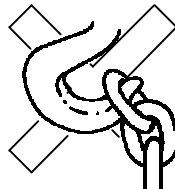

Fig. 5
- The load must always be seated in the saddle of the hook. Never attach the load to the tip of the load hook (Fig. 5). This also applies to the suspension hook.